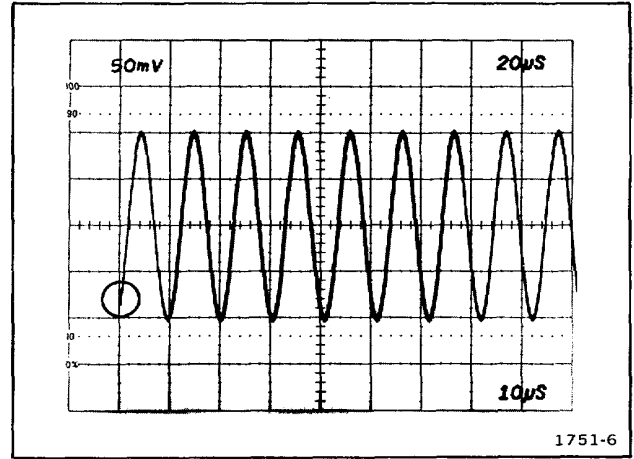

Fig. 5-6. Trigger sensitivity (Circle correct trigger point).
a. Adjust-Trig Sens, R1 75, for a sweep trigger point at approximately 0.3 division from bottom of waveform as MAIN TRIGGERING LEVEL control is rotated through negative (-) portion of its range. See Fig. 5-6 for reference.
a. Adjust-Trig Sens, R320, for a sweep trigger point at approximately 0.3 division from bottom of waveform as Delayed Triggering LEVEL control is rotated through negative (-) portion of its range. See Fig. 5-6 for reference.